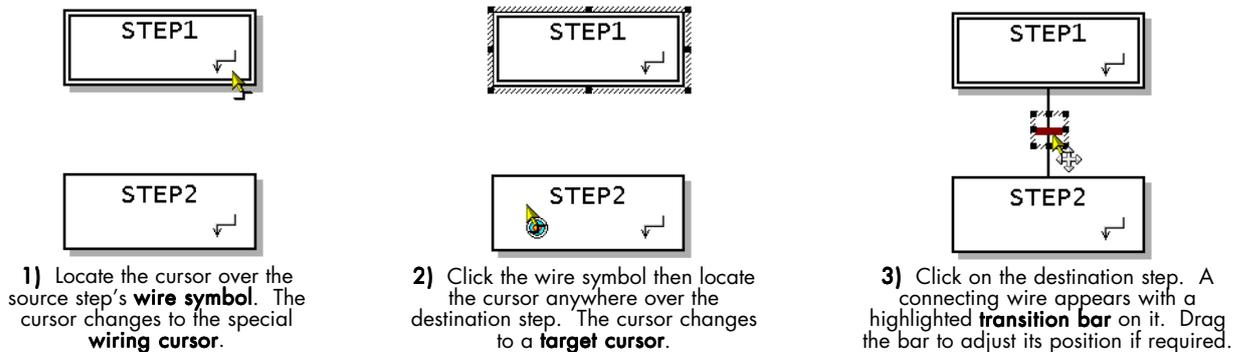

Figure 8-3 Wiring up 'STEP1' to 'STEP2'
- 3 Click over the destination step to complete the wire connection. A brown (unconfigured) transition bar  appears on the new wire. Drag the highlighted transition bar up the connecting wire to centre it if you wish. Figure 8-3 summarises these wiring operations.